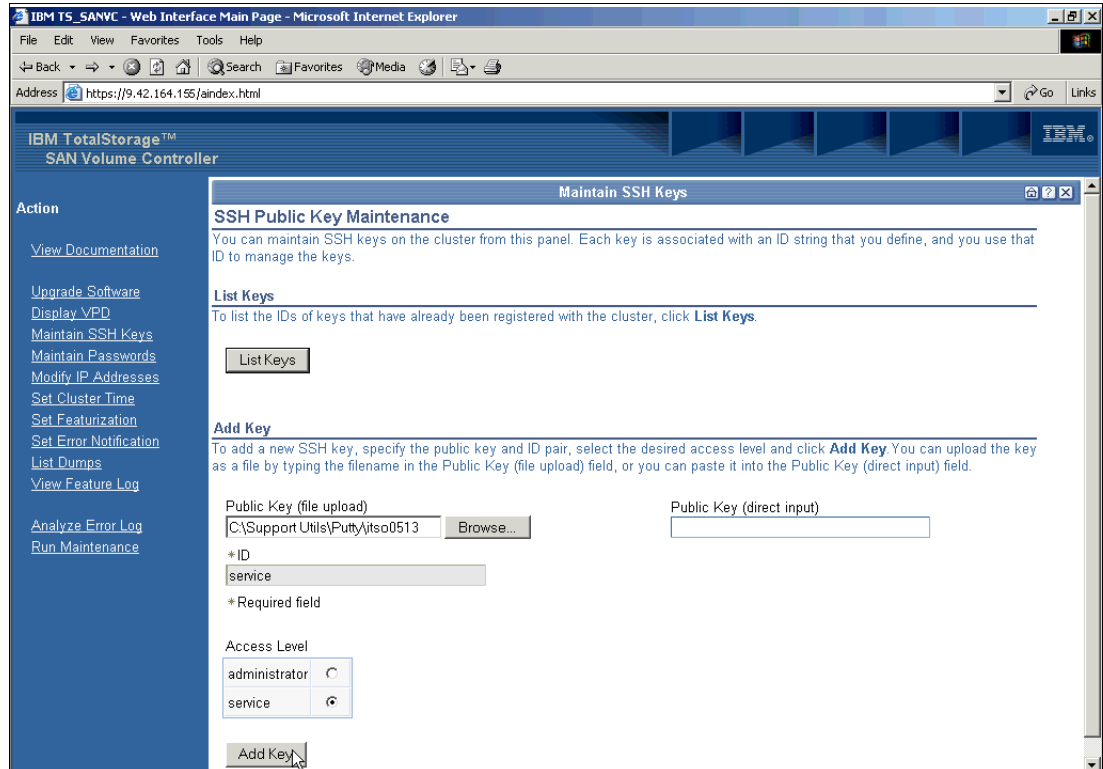

Figure 4-17 SSH Key Maintenance panel
5. On the SSH Key Maintenance panel (Figure 4-17), follow these steps: